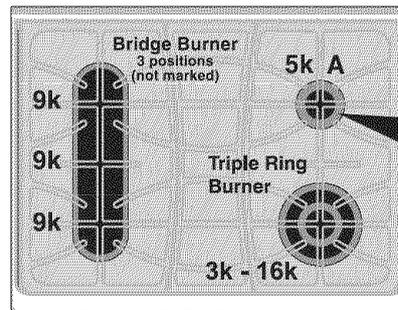

Fig. 4
- Remove any packing tape from cooktop. Remove all Burner Caps and Burner Heads, except **DO NOT REMOVE** Burner Head for Triple Ring Burner (right-front burner position; See Fig. 4).